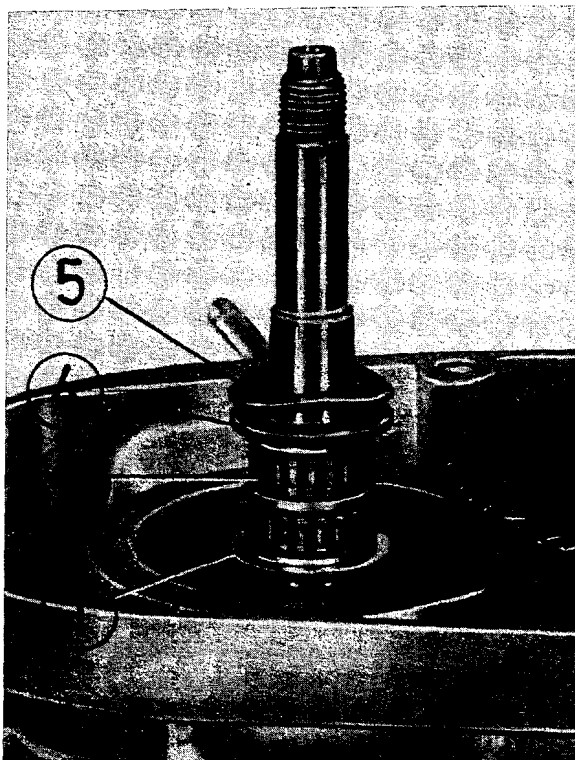

Fig. 75. Principle of mounting the clutch driver
The given end play is determined by means of the measuring device 05-ML 13-4. For this purpose, the measuring device is fitted without spring lock washer (5) and thrust washer (4) (Fig. 75). When moving the inner driver axially, the end play is indicated by the dial. The end play of the drive gear with inner driver is 0.05 to 0.10 mm.
The end play is varied with the help of different spacing washers (1) (Fig. 75). When the end play is smaller than 0.05 mm, the spacing and thrust washers will be tarnished, and the clutch fails to interrupt the power flow from the crankshaft to the gearbox because the driver has got stuck. Under these conditions, the clutch may be torn from the cone of the crankshaft.
- Mount the clutch. Due to its spring power, the spring lock washer under the clutch retains the thrust washer (4) in place (Fig. 75). The pre-tension of the spring lock washer is good when the clutch, which is being mounted (before tightening), slightly tilts in the cone.
- Before mounting the clutch cover, the clutch must be properly tightened with the help of a spacer tube (A).